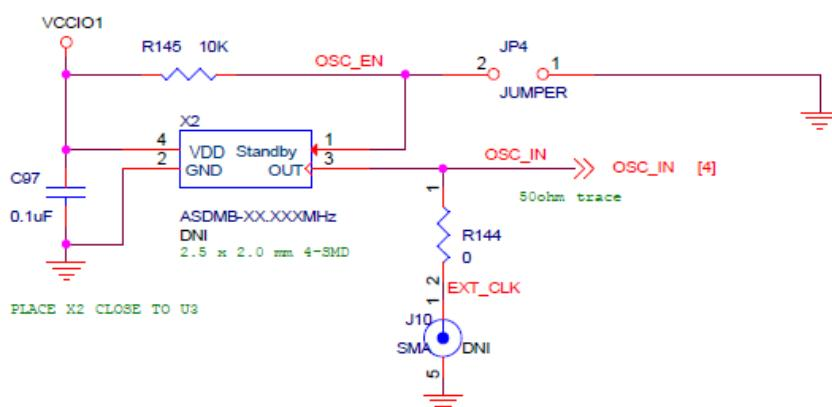

Figure 4.1. Optional Clock Circuit Design
- The board provides an optional clock input for the MachXO3D from either the Oscillator (X2) or the SMA header (J10), as shown in Figure 4.1. Neither of them is populated.